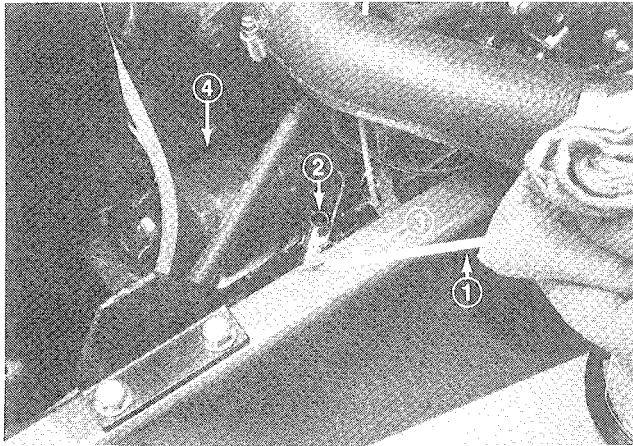

Figure 43
4. Remove oil drain plug and allow oil to flow into drain pan. Remove and replace oil filter (Fig. 43); refer to parts catalog for part number.